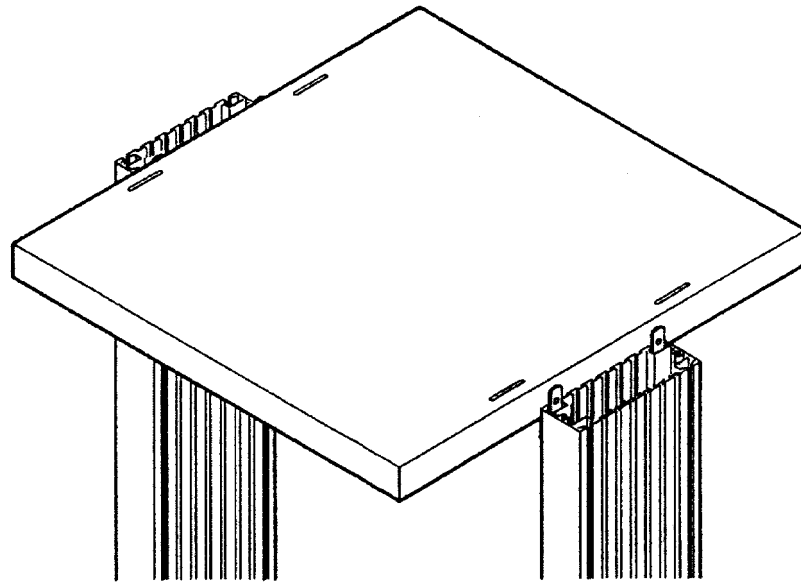

Figure 7: Aligning the Bottom Shelf
2. Position the bottom shelf horizontally between the leg assemblies, as shown in Figure 7. Ensure that the cable tie hole pattern is facing the rear of the cart.